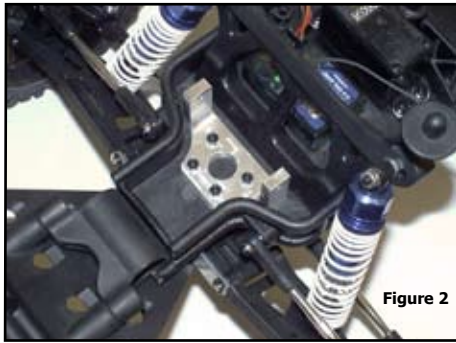

Figure 2
1. Remove the body and prop the car on a block to hold the wheels off the ground. Remove the four flat-head screws from the front of the chassis pan. Install *Cagemount 1 (Front)* with four 4-40 x 3/8 socket head cap screws, as shown in *Figure 2*.